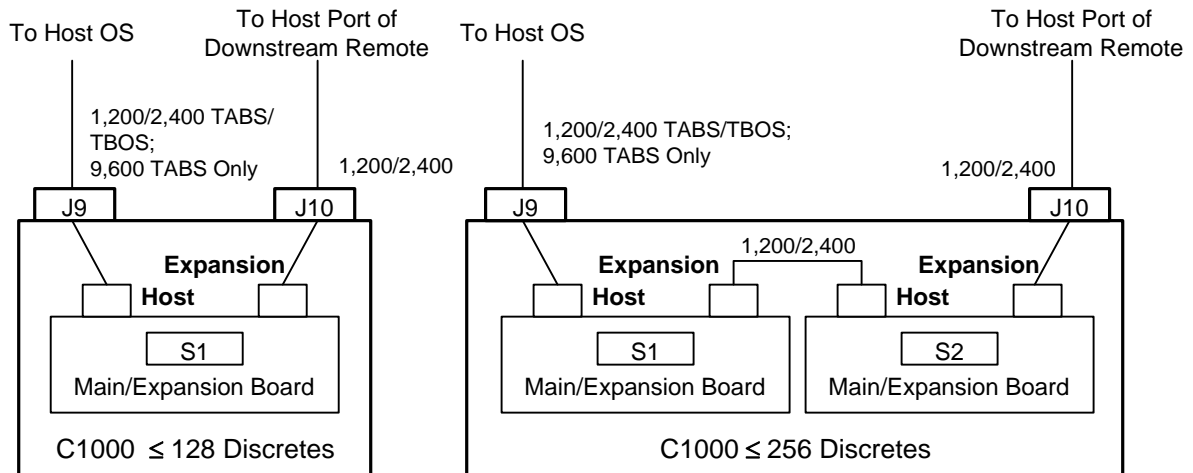

Figure 2-4 Simplified Block Diagram of Host and Expansion Ports
Reference Figure 2-4 when establishing TABS or TBOS serial port interface switch settings on S1/S2. As shown, the meaning of host and expansion applies to more than just J9 and J10. Except for TABS address or TBOS display settings, S2 settings generally reflect S1 settings unless indicated otherwise.
C. No alarm summary feature, but has RS-232 card with 9,600-bps software on the host port	9,600-bps data rate, 8 data bits, no parity, switched (automatic) carrier (Note 2) on host port. This position overrides Segment 8 settings for host (J9). See Figure 2-4.
C. No internal modem, but has RS-232 card with 9,600-bps software on host port	See Figure 2-4. If S1-7 ↑, S1-8 sets 2,400 bps; 8 data bits; odd parity on expansion port only, but S2-8 sets for host/expansion ports. If Segment 7 ↓, sets 2,400 bps; 8 data bits; odd parity on host/expansion ports.